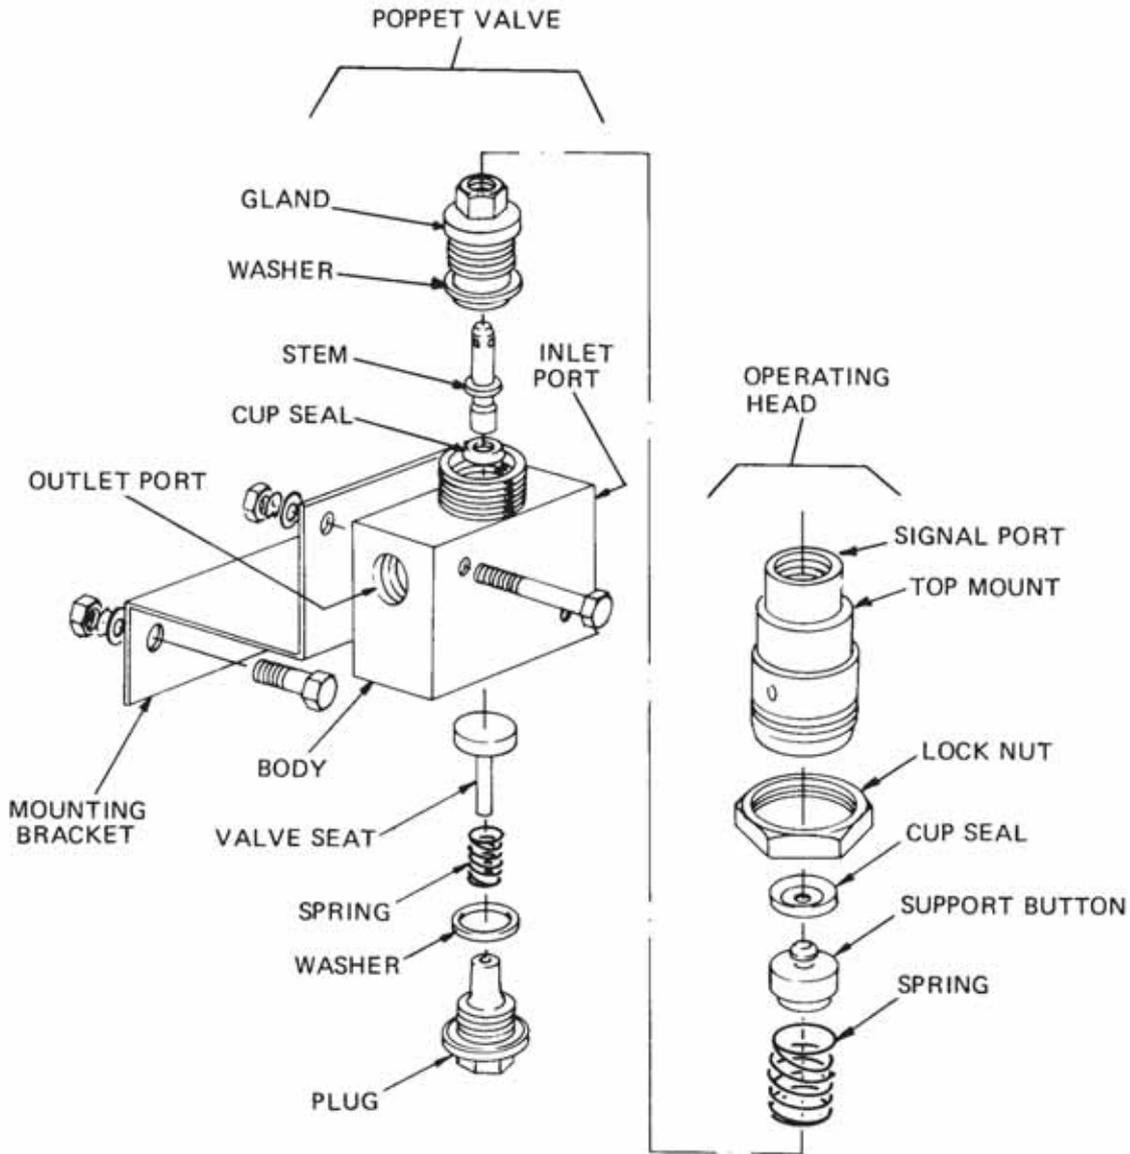

Figure 14 Poppet Valve – Exploded View
24. Air supplied via the pressure protection valve is applied simultaneously to the inlet ports of the poppet valve (Figure 14) and the PTO/hoist control box. When the PTO select switch has been moved to the IN position, signal pressure air is directed to the operating head on the poppet valve. The signal pressure forces the support button onto the stem, which in turn moves the valve seat thereby allowing air to flow from the inlet port to the outlet port.